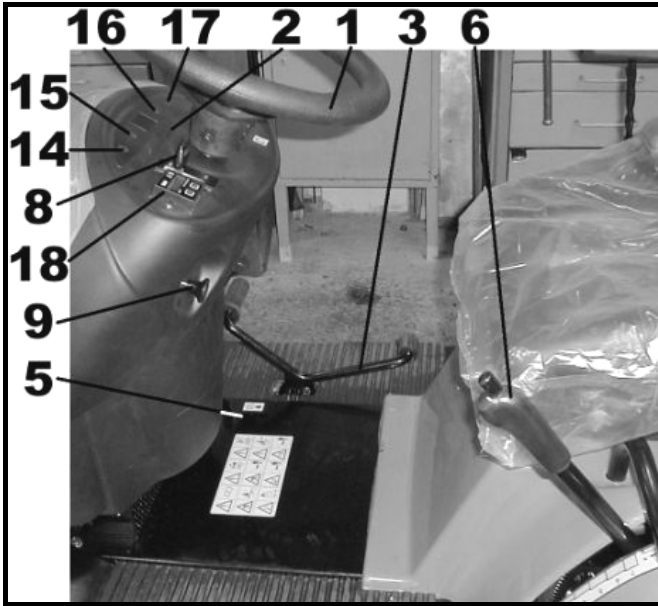

Fig.3a
**4.1 Operation – Fig.3a, 3b, 3c**
**The machine is equipped with automatic checking of the contents of the bag.** (This means that when the bag is full there is the automatic disconnection of the electromagnetic clutch of the drive for the cutting mechanism). The automatic check is activated by the AUT-MAN switch (Fig.3c, position 13), switching to the AUT position. (When switching into the MAN position there is the disconnection of the automatic checking). **In the case of starting the drive of the cutting mechanism and following the filling of the bag, the drive of the cutting mechanism is automatically disconnected.** The filling of the storage tank is indicated by the signal lamp (Fig.3a, pos. 17). The activation of the drive of the cutting mechanism is possible after emptying the bag. (In the case of cutting in the MAN position, the bag is filled more than in the AUT position, however, the any further cut grass remains on the lawn. The use of the MAN position requires a skilful operator!)